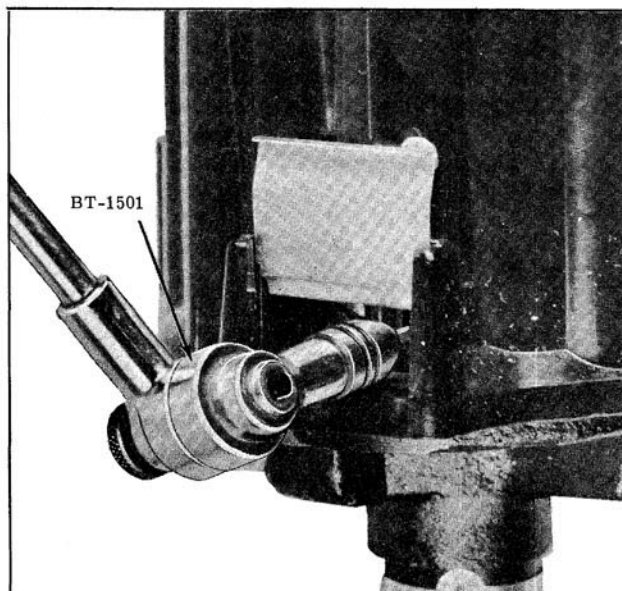

Fig. 13-64 Adjusting Dwell Angle
4. With the engine running at idle speed, insert Dwell Adjusting Tool BT-1501 into the head of the adjusting screw as shown in Fig. 13-64 and adjust dwell angle to 30°